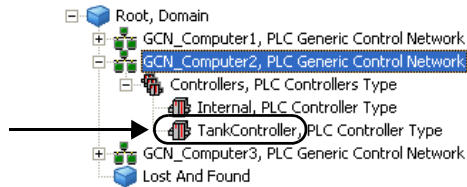

Figure 20. Created Controller Object
11. Expand the Generic Control Network object to view the created controller object as shown in Figure 20.